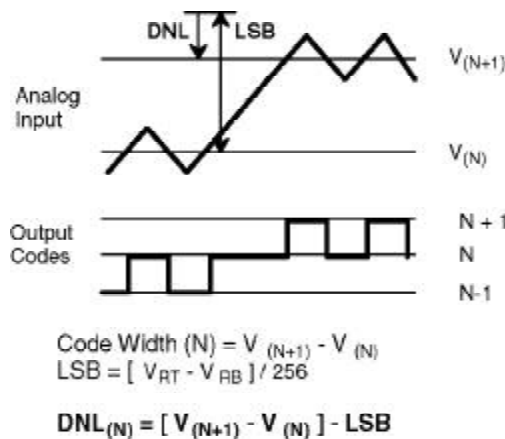
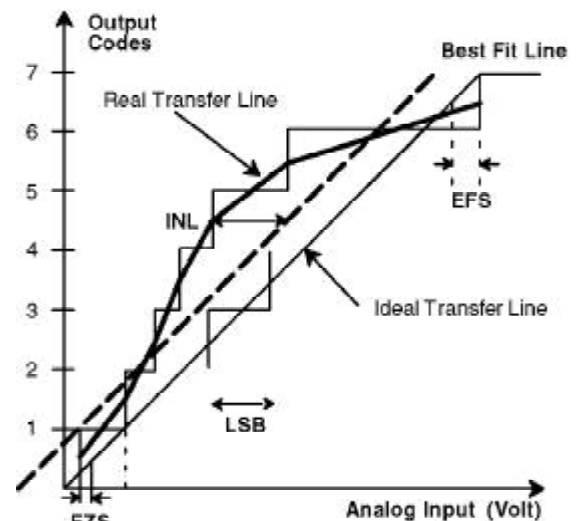

Figure 3. DNL Measurement
Figure 4. INL Error Calculation
- The difference between the measured and the ideal code width ($V_{REF}/256$) is the DNL error (Figure 3). The INL error is the maximum distance (in LSBs) from the best fit line to any transition voltage (Figure 4). Accuracy is a function of the sampling rate (FS).